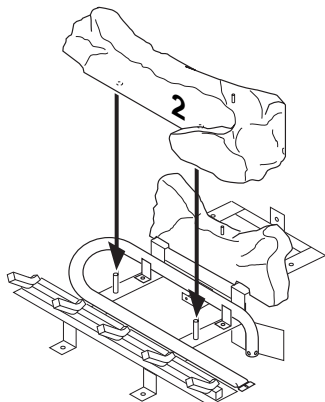

Figure 41 - Installing Log No. 2
2. Rest log #2 (front log) on pins on front part of grate (see Figure 41, page 25).